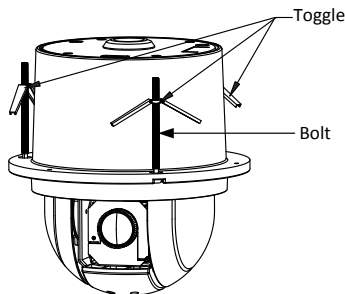

Figure 2-15 Install the Toggle Bolts
- 4) Reinstall the toggles as shown in Figure 2-15.